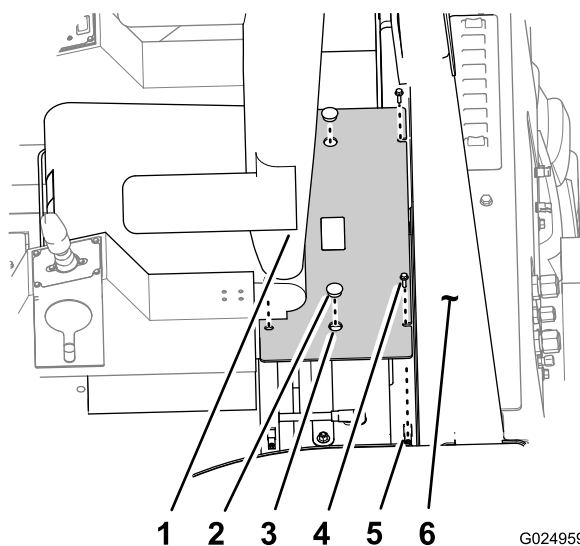

Figure 82
3. Remove the 4 bolts that secure the battery cover to the ROPS platform (Figure 82).
1. Align the holes in the mounting flanges for the battery cover with the plate nuts in the ROPS platform around the battery (Figure 82).
2. Secure the battery cover to the ROPS platform with the 4 bolts (Figure 82).